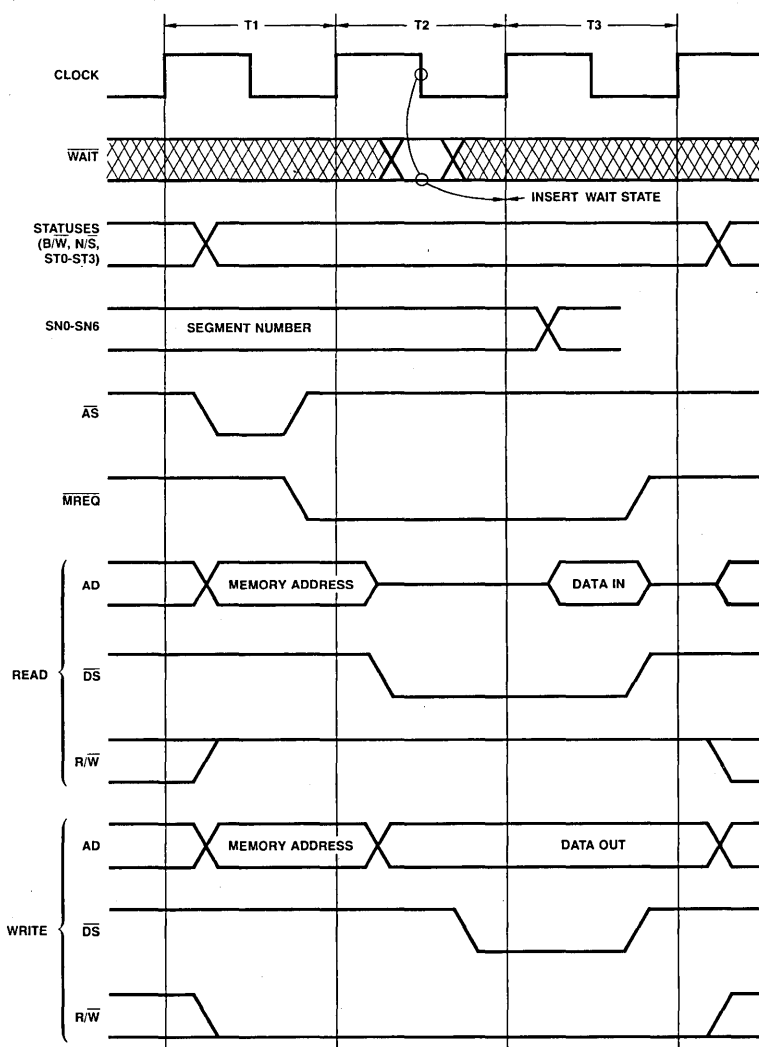

Figure 8. Memory Transactions.
It can be appreciated that all the above transactions essentially fall into two categories: memory read and memory write. In the case of IF1 and IFN cycles, the memory will be read at the address supplied by the program counter. All AmZ8001 instructions are multiples of 16-bit words. Words are always addressed by an even address. Thus IF1 and IFN cycles involve performing a memory read for words. On the other hand, a memory transaction for operand and stack operation could be a read or write. Moreover, an operand could be a word or a byte. For stack operation involving the implied stack pointer the address will be supplied by the RR14 (or RR14'). For operand transactions, the memory address will come from several sources depending on the instruction and the addressing mode. Memory transaction cycle timing is shown in Figure 8. It typically consists of three clock periods T1, T2 and T3. Wait states (TW) can be inserted